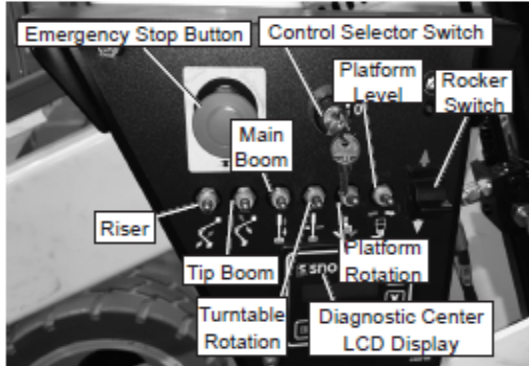

Figure 9.1 – Lower Controls
1. Twist the emergency stop button clockwise at the lower controls (refer to Figure 9.1).
1. At the lower controls, pull the emergency stop button outward (refer to Figure 9.1), insert the key into the control selector switch and turn the switch to the upper control position.